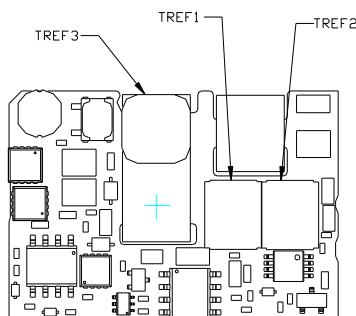

Figure 43.  $T_{ref}$  Temperature Measurement Locations.
To provide protection under certain fault conditions, the unit is equipped with a thermal shutdown circuit. The unit will shutdown if the thermal reference point  $T_{ref}$  (Figure 43), exceeds  $125^{\circ}C$  (typical), but the thermal shutdown is not intended as a guarantee that the unit will survive temperatures beyond its rating. The module can be restarted by cycling the dc input power for at least one second or by toggling the remote on/off signal for at least one second. If the auto-restart option (4) is ordered, the module will automatically restart upon cool-down to a safe temperature.
The thermal reference point,  $T_{ref}$  used in the specifications is shown in Figure 43. For reliable operation this temperature should not exceed 120°C.